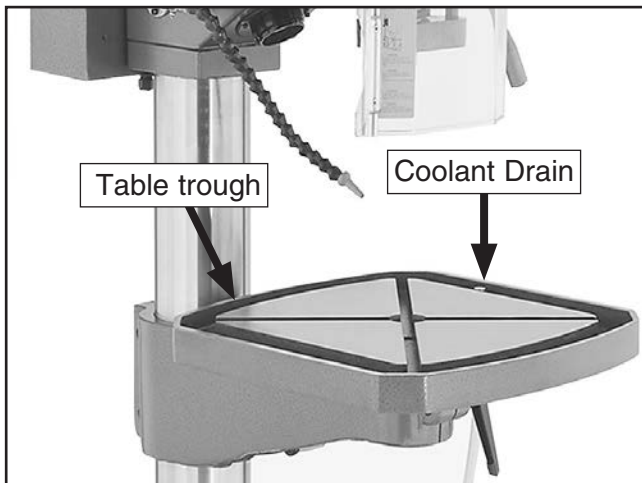

Figure 13. Table trough and coolant drain.
2. Aim the coolant nozzle into the trough to reduce splash (see **Figure 13**).